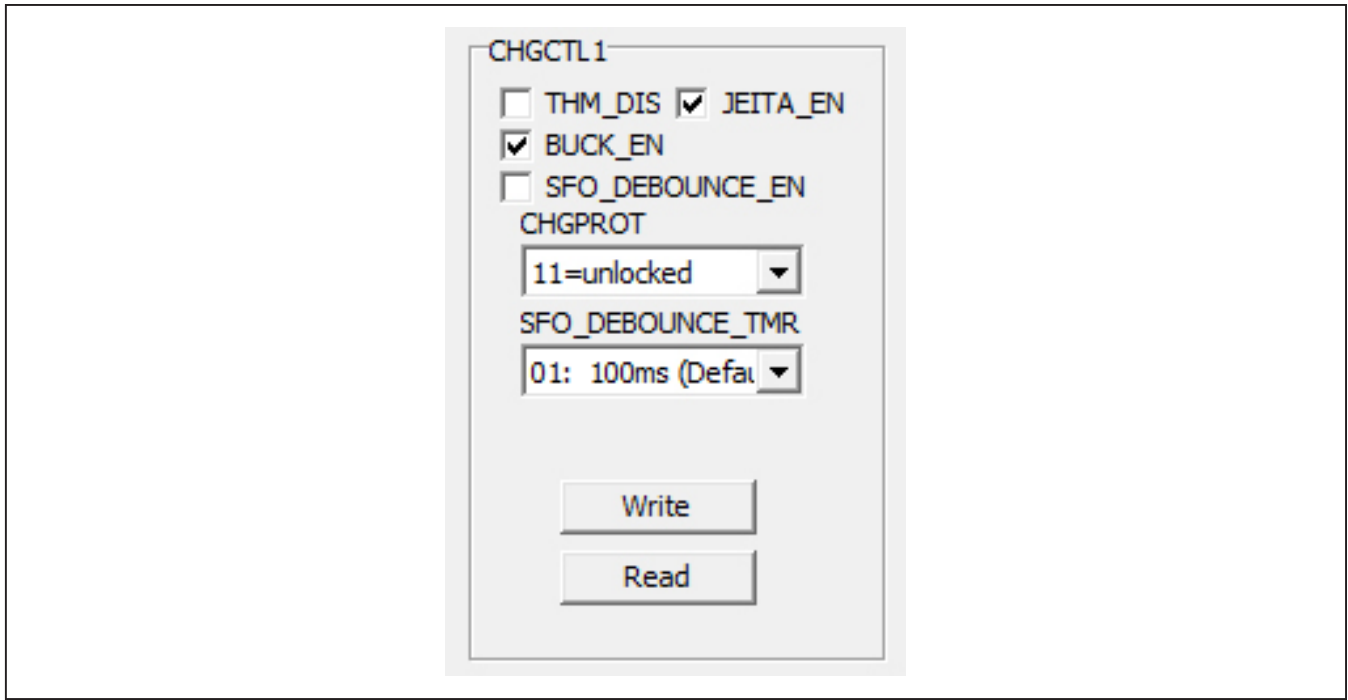

Figure 5. MAX77829 GUI—Charger Configuration 1
- 1) Ensure the EV kit is properly connected and powered. Go to tab CHG\_CNFG(1), as shown in Figure 5, and set up the related the settings for the charger settings. A quick setting guide for related